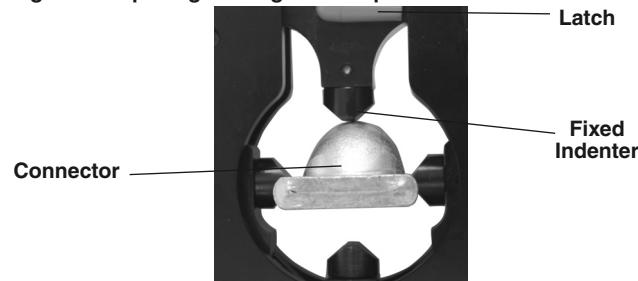

Figure 3 – Aligning Connector With the Fixed Indenter
- Center the connector squarely against the fixed indenter (mounted on latch) (Figure 3). If the connector is not centered on the fixed indenter or is between the indenters, an improper crimp and tool damage can result.